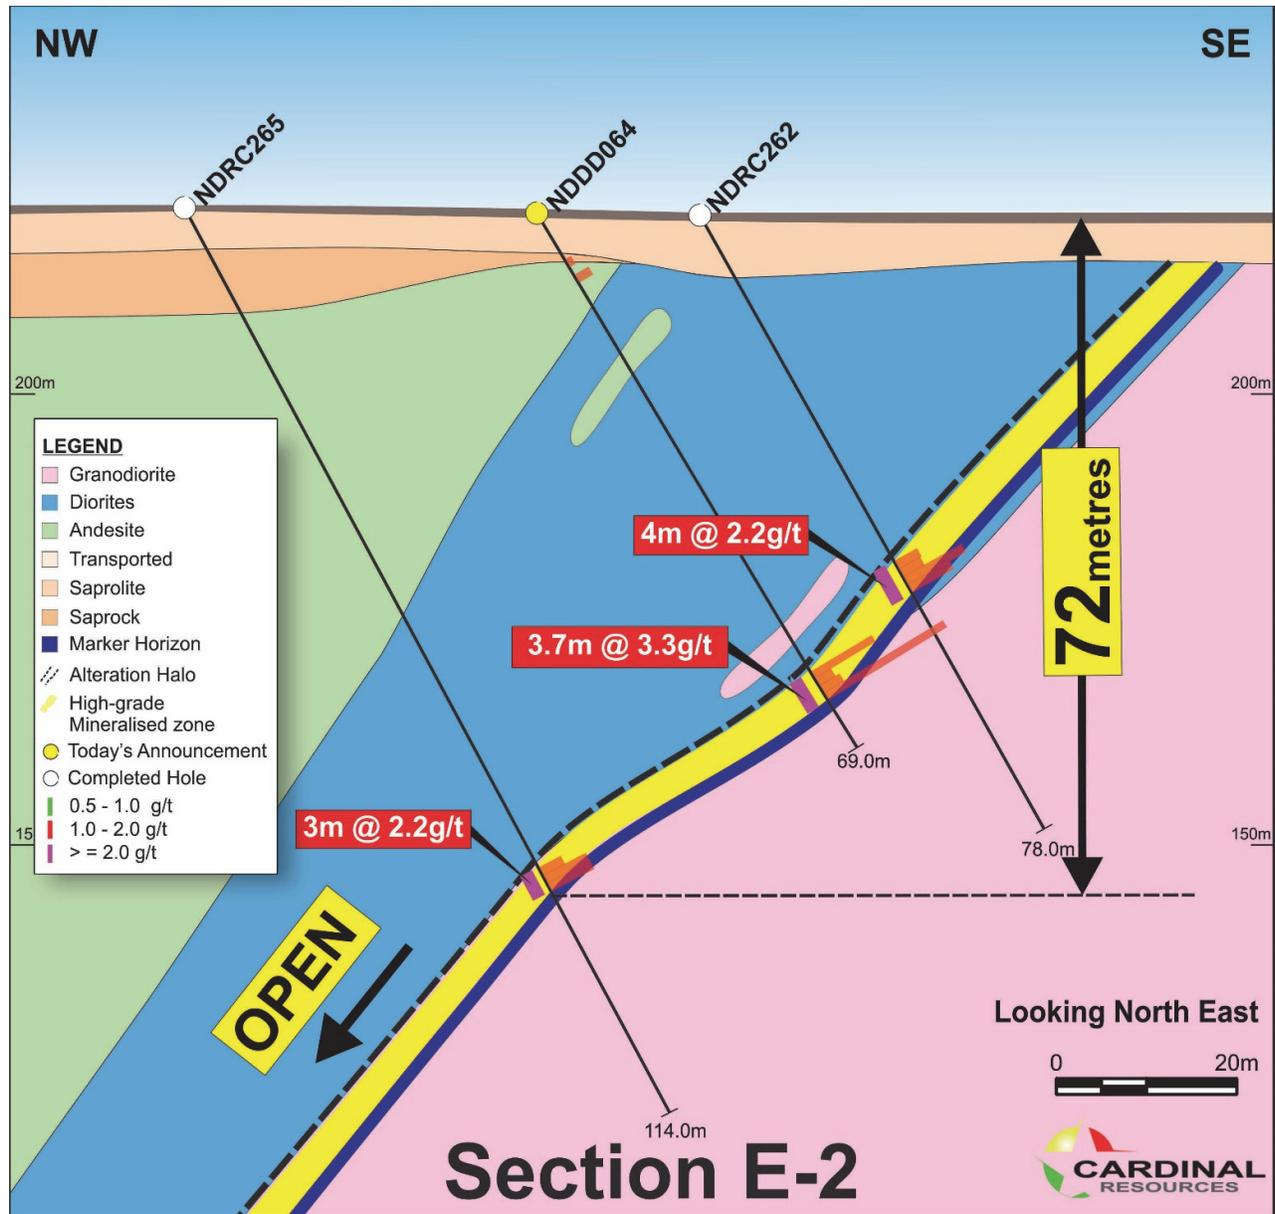

Figure 4: Ndongo East Prospect Section E-2 – E-2
**Drill Section E-2 – E-2** (Figure 4) comprises diamond drill hole NDDD064 as well as previously drilled RC drill holes NDRC262 and NDRC265 (reported in press release dated 29 August 2018). These three drill holes have intersected shallow gold mineralised halos with encouraging grades including 3.7m@2.2g/t Au from 59m, 4m@2.2g/t Au from 44m and 3m@2.2g/t Au from 83m respectively. Refer to the full results in Table 2 in Schedule 1.